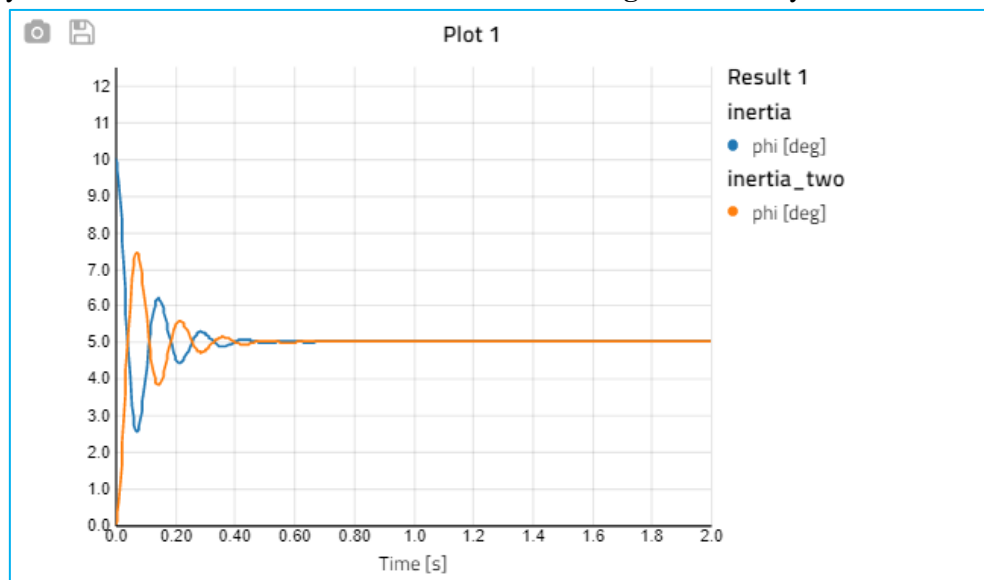

Figure 15 Verify initial values
13. Verify whether the model's initial values are as seen in **Figure 15**. Analyze the results.